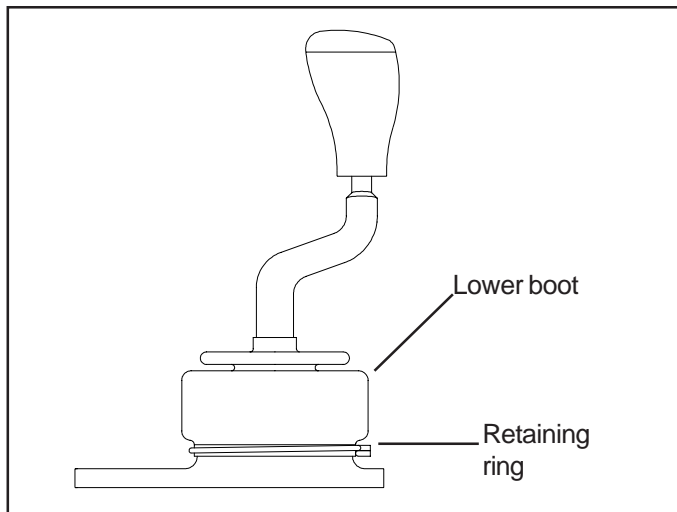

Figure 2
Step 5. Check the operation of the shifter. Install the new lower boot supplied with the shifter. First put the retaining ring around the bottom of the shifter, below the stop screws holes. Then install the boot over the shifter. Squeeze the retaining ring with your fingers and put it around the lower part of the boot (**See Figure 2**). This lower boot must be used to keep dirt and water out of the shifter mechanism.